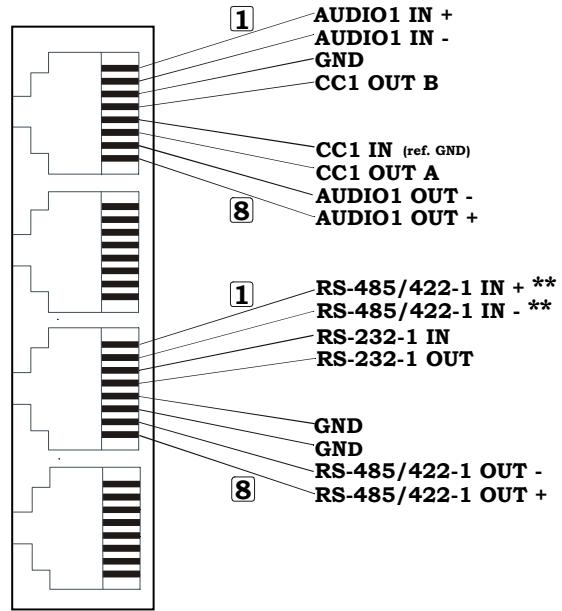

Figure 5.
The electrical port pin assignments (see table 5) are such that similar ports of different units may be connected back to back with reversed cable (RS-232 interfaces excepted). See figure 5 for the pin numbering convention used.
** see note Figure 5